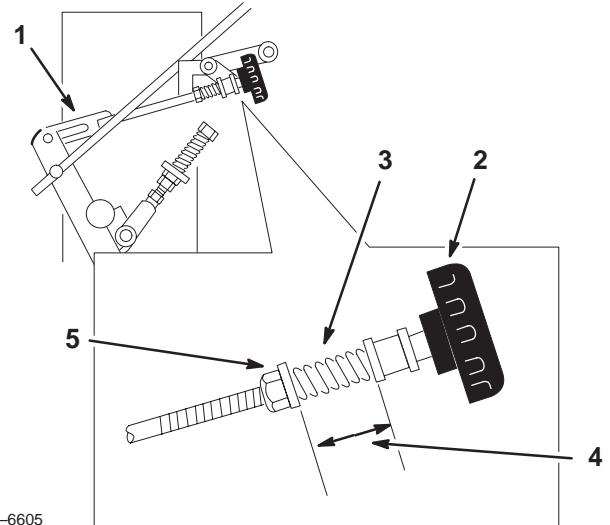

Figure 54
- Adjust the right side linkage by turning the quick track knob counterclockwise until the tire begins to rotate forward (Fig. 54).
- Turn the knob clockwise 1/4 of a turn at a time. Then move the speed control forward and back to neutral. Repeat this until right wheel stops rotating forward (Fig. 54).
- The spring that keeps tension on the knob should normally not need adjustment. However, if adjustment is needed, adjust the length of the spring to 1 inch (26 mm) between the washers (Fig. 54).
- Adjust spring length by turning the nut at the **front** of the spring (Fig. 54).